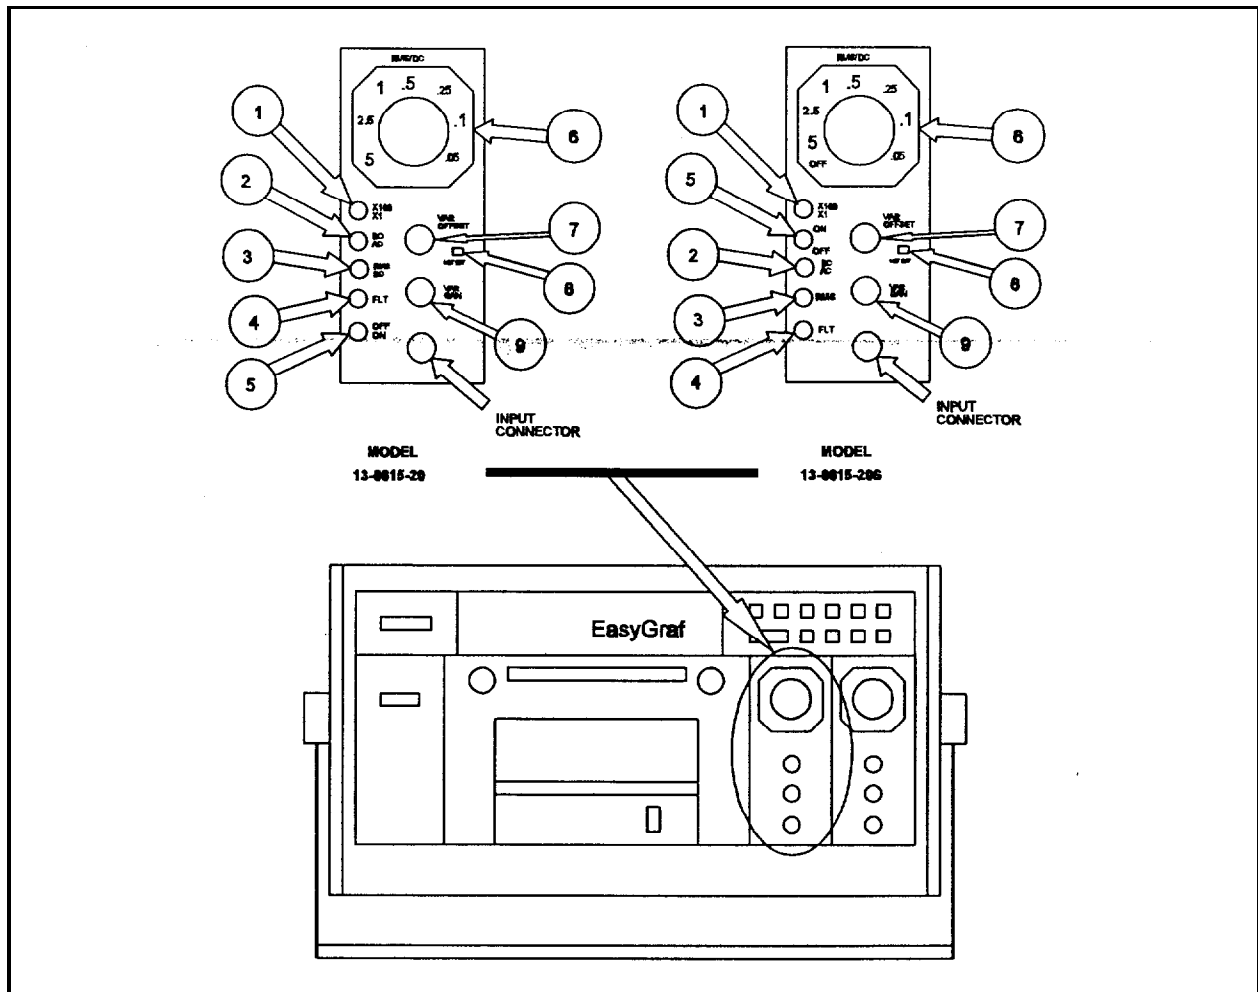

Figure 8
2.5 Front Panel Controls - The following paragraphs describe the functions and parameters of the signal conditioner front panel controls depicted in Figure 8.
Model 13-66 15-20: Push the VAR OFFSET knob in (Figure 8, circle 7). Check that the “NOT REF” LED (Figure 8, circle 8) is off.
Model 13-6615-20S: (has vernier variable gain control, Figure 8, circle 7) Check that the “NOT REF” LED (Figure 8, circle 8) is off.